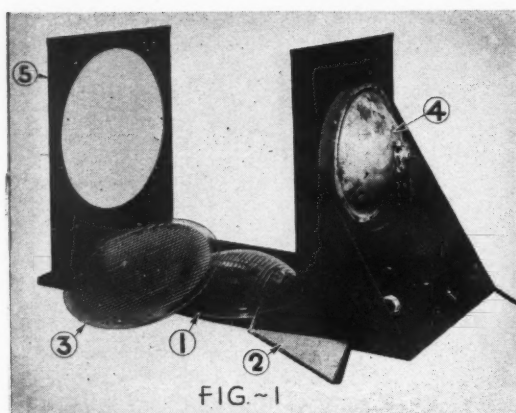

FIG. 1
Remove the universal joint ball and end plate assembly from the back of the transmission. While removing this assembly hold the low and reverse speed gear as it will not pass through the back end of the case. Fig. 1.
flecting surface. The equipment used in making the experiment is shown in Fig. 1. Here, a headlight reflector (4) directs its beam toward a screen (5). On the base of the instrument is shown a prism of glass (2) and a disk of fluted glass (3) which compose a headlight reflector (1). In front of the reflector is a frame for holding sheets of opaque paper.